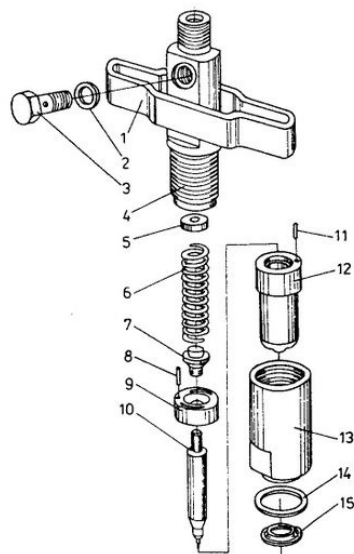
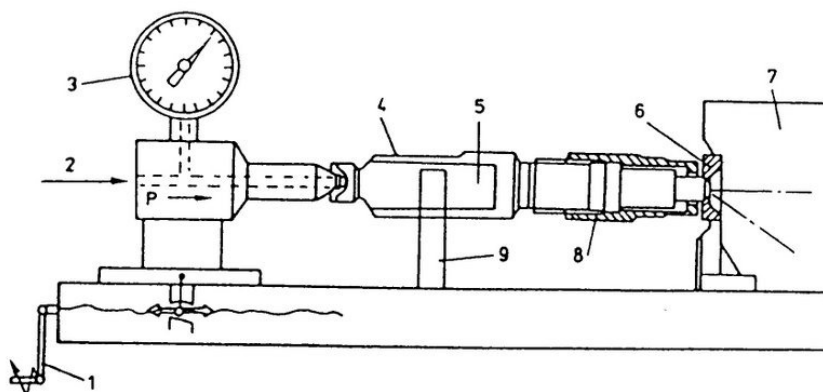

Fig. 46. Injector parts
Fig. 48. Device used for assembly and testing of injectors
- Break or bending of retaining dowels (8, 11, Fig. 46) caused by improper disassembly or assembly of an injector (it refers to injectors type WNS-13 only);
- For assembly and checking of an injection use only a device shown in Fig. 48;
3. Device for disassembly and assembly of an injector (Fig. 48) which enables:
- Fix an injector in a device (Fig. 48).
- Unscrew an injector nut (13, Fig. 46).
- Remove: nozzle holder (4), insert, spring cup (7) and adjustment washer (9).
- Injector should be assembled in a special device (Fig. 48) which ensures that:
- Insert an adjustment washer (9, Fig. 46) into an injector body. It should be of the same width as one which was removed during a disassembly;
- Put into a body (12) a spring (6), a spring cup (7), an insert (5) with two retaining dowels from the side of an injector body and with two retaining dowels from the side of a nozzle body; then screw in a nozzle nut to a light resistance; retaining dowels are used only in injectors type WNS-13 with nozzles BDNOSPC 6389;
- Fix an injector in a device (Fig. 48) and using a crank press a nozzle to a body (with force of 19 ... 22 kN).
**Attention.** In case when device shown in Fig. 48 is not available to tighten an nozzle nut clamp an injector in vice with soft pads. Apply to an injector a torque operating in the opposite direction in relation to this one which is necessary for tightening of a nut.